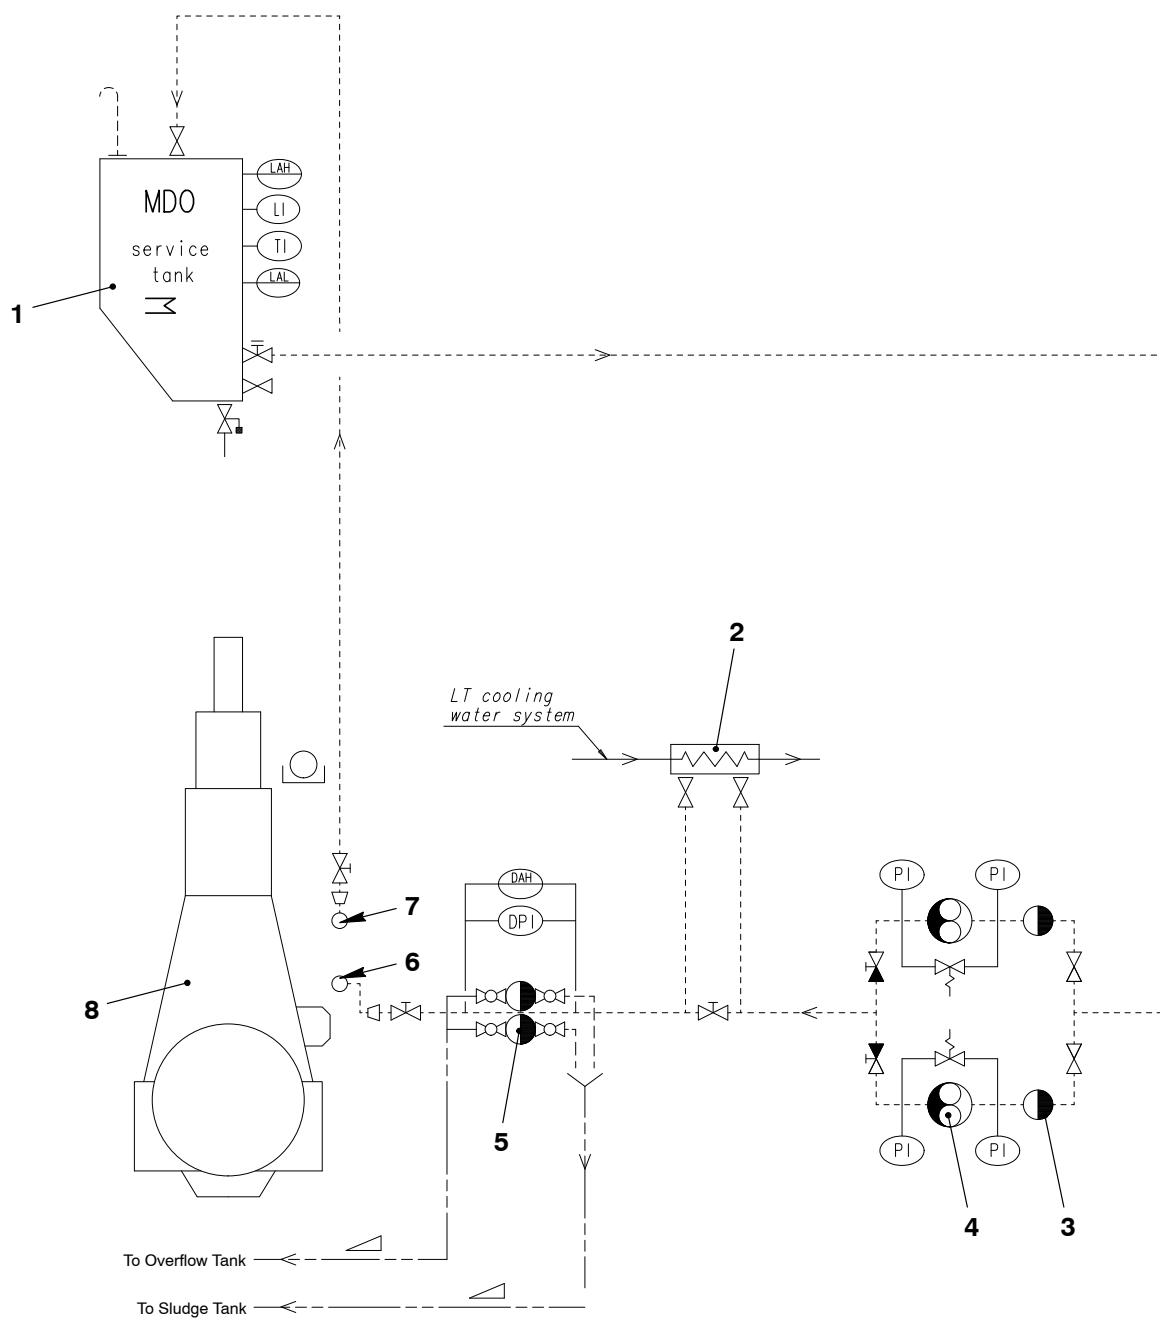

Fig. 4: Schematic Diagram – Pilot Fuel System
- MDO service tank (1, Fig. 4)